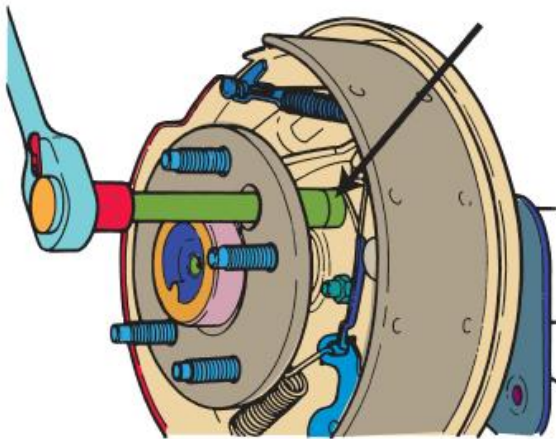

Figure 36. Remove retainer plate fasteners.
- Remove the retainer plate nuts/bolts. Figure 36.